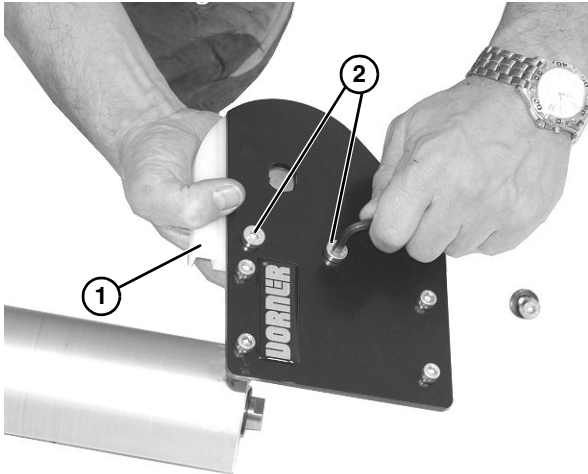

Figure 38
7. Check idler terminal assembly (**Figure 38, item 1**) for wear. If worn, remove two low head cap screws (**Figure 38, item 2**) and replace.